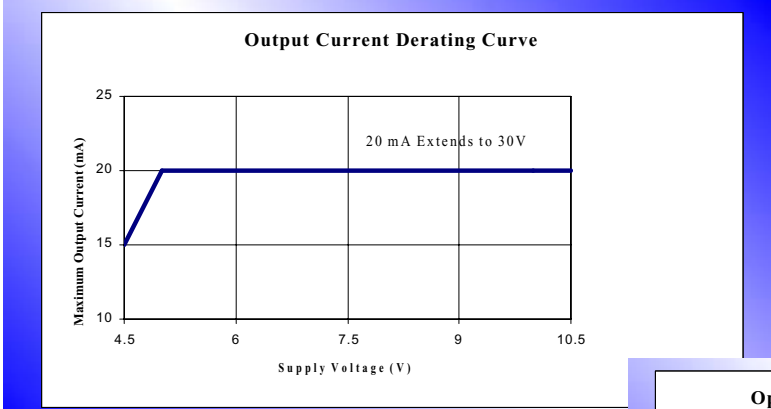

Figure 2
- Outputs must be current limited through a series resistor. Exceeding absolute maximum continuous output current ratings will result in damage to the part. Also, see Figure 2 for an output current derating curve.